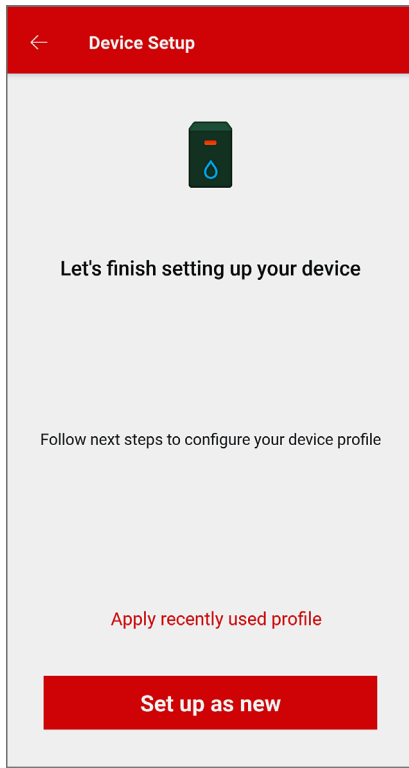

Figure 104. Device Setup as New
2. Press the "Set up as new" button to enter new identification and service information. Press the "Apply recently used profile" button to use information already provided. See **Figure 104**.